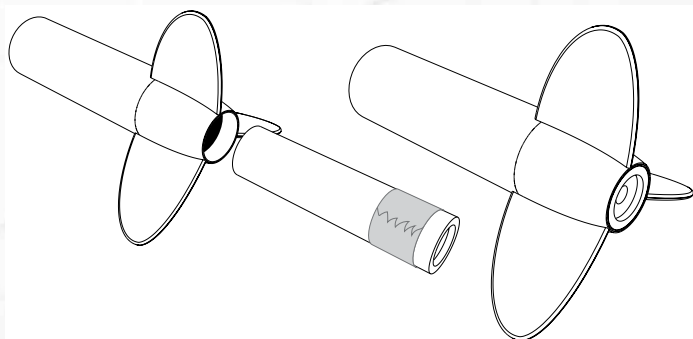

Figure 7: Without an engine mount tube, you can't use friction-fit to hold the motor in.
6. It allows you to friction-fit the motor into the rocket. Normally I don't like wrapping tape around the rocket motor to hold it into the engine mount tube. But there are some cases where you don't have many easy or convenient options. For example, rockets with a boattail on the rear end as shown in Figure 7. This is especially true if you want the rear of the motor to be flush with the back edge of the boattail for the lowest drag.